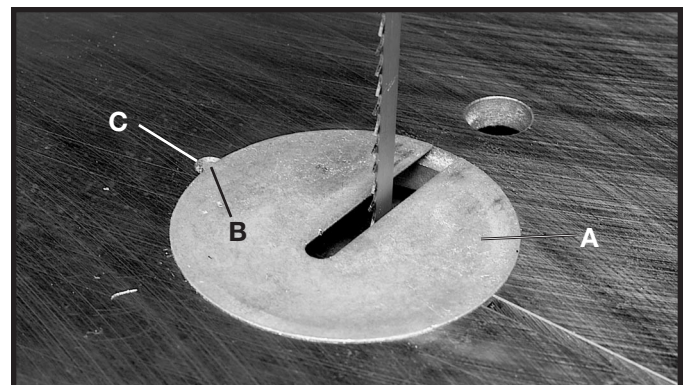

Fig. 33
Place table insert (A) Fig. 33, in opening of table. **NOTE:** A tab (B) is provided on insert that engages with notch (C) in table opening.